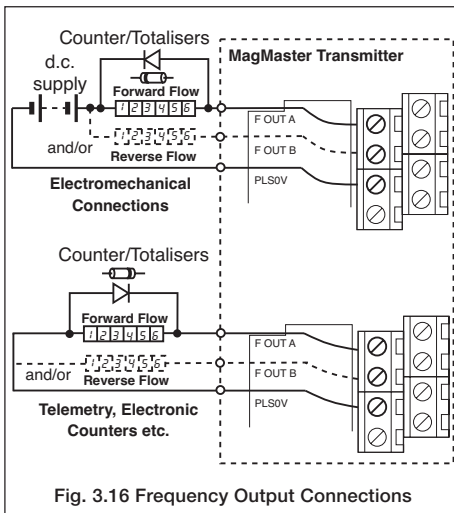

Fig. 3.16 Frequency Output Connections
3.3.1 Frequency Outputs – Fig. 3.16